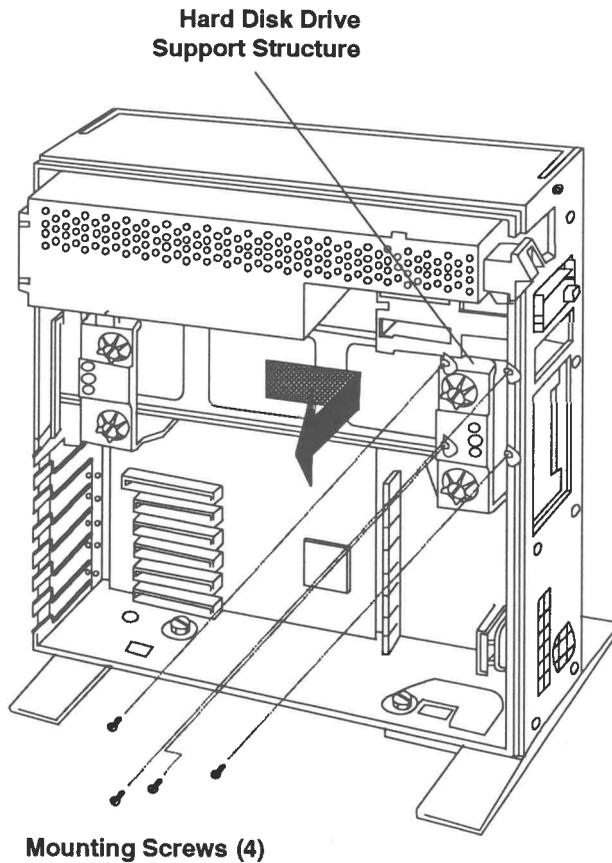

Figure 2-8 Drive Support Structure Removal
9. Remove the four screws that secure the drive support structure to the chassis (see Figure 2-8).
10. While holding the support structure with both hands, pivot the front of the support structure away from the chassis as shown in Figure 2-8. Remove the assembly from the computer.
7. Insert the hard disk drive support structure mounting tabs into their corresponding slots on the chassis. Firmly press the assembly into place so that its four mounting holes are aligned with their corresponding standoffs on the chassis (see Figure 2-8).